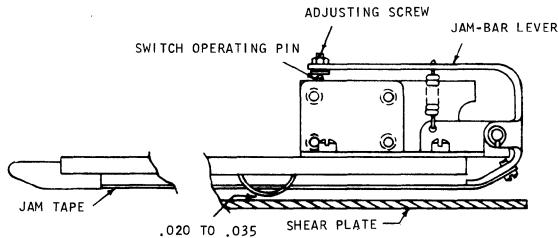

Figure 3-4. Jam Bar
1. A jam bar must be positioned for $.020''$ to $.035''$ clearance between the formed points and the shear plates over the entire length of the card transport and at the junction of the jam bar and jam bar lever (Figure 3-4).